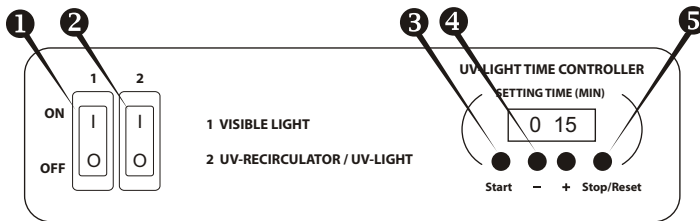

Fig.1. Control Panel
- 4.2.1. Turn ON **switch 2** (Fig.1/2). This automatically turns on the UV-recirculator with the hidden UV-lamp and activates the timer of open UV-lamp. The UV-recirculator will operate all the time until **switch 2** is turned OFF.
- 4.2.2. Use the timer keys **+** and **-** (Fig.1/4) to set the time (UV-LIGHT TIME CONTROLLER) of direct UV light exposure of the working place:
4.2.3. Press the **Start** key (Fig.1/ⓘ), the open UV lamp automatically will be turned on and timer starts counting up the exposure time. Timer indicator shows actual time: until 1 hour - in minutes and seconds (min:sec), after 1 hour - in hours and minutes (hh:mm).
4.2.4. The open UV-lamp can be switched off by pressing **Stop/Reset** key (Fig.1/ⓘ). The set time of exposition is preserved in the memory. The set time won't be preserved after the complete switching off the UV-cleaner box.
4.3.1. Turn ON **switch 1** (Fig.1/ⓘ) for lighting of the working place (this turns ON the Luminescent (Visible light) lamp).